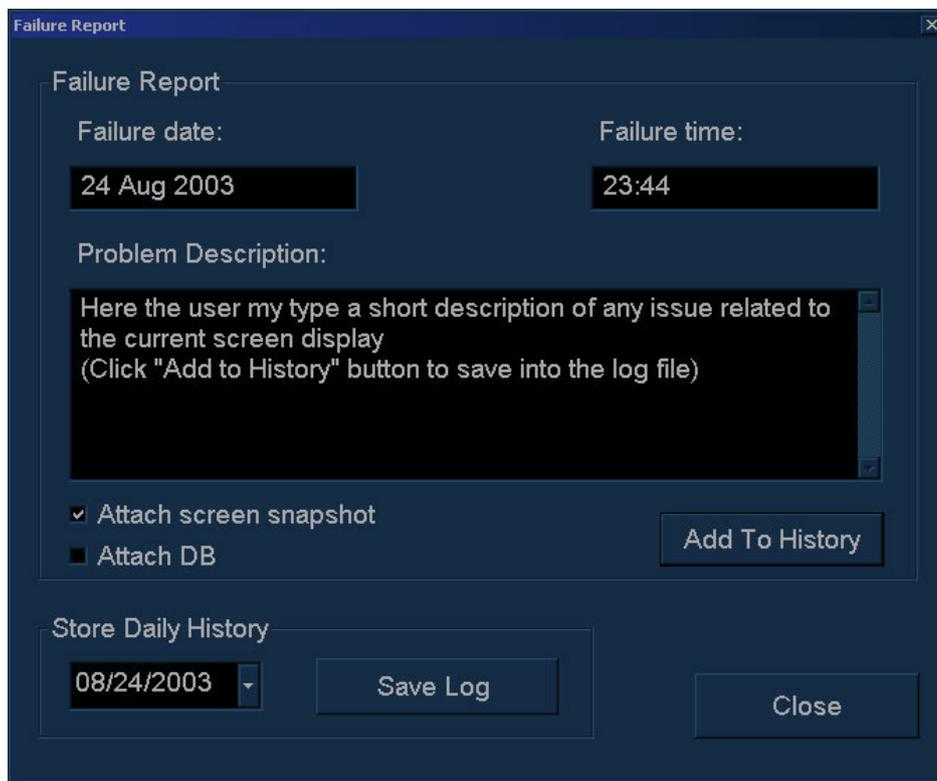

Figure 7-102 Failure Report Window
- 1) Press <Ctrl+F> (or <Alt+D>) on the alphanumeric keyboard. The *Failure Report* window is displayed, as shown in Figure 7-102 on page 7-128.